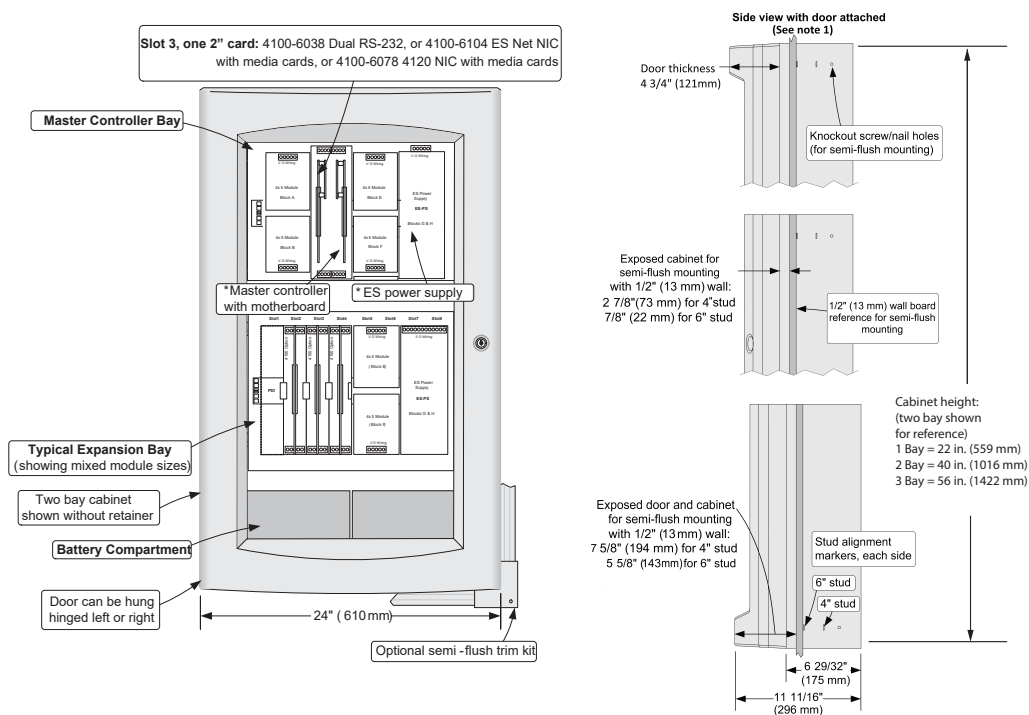

Figure 6: Mounting and CPU Bay Module Reference
2. Asterisks (\*) in Figure 6 indicate supplied modules.